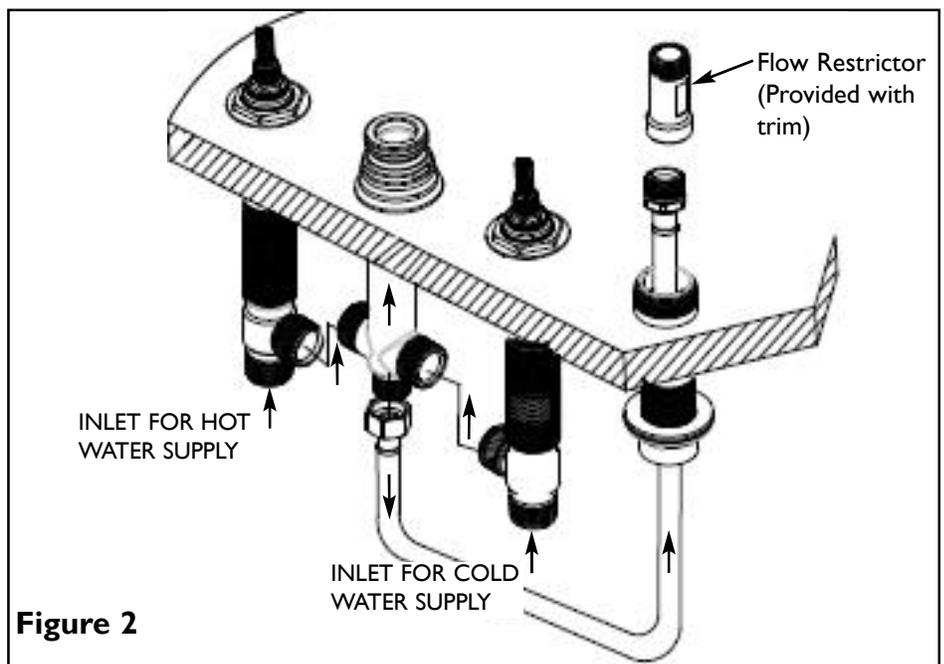

Figure 2
6. Feed Braided Hose through Hand Shower Deck Flange and attach one end of hose into the hand shower outlet of Diverter Valve. See **Figure 2**.
7. Attach hot/cold supply lines to appropriate Valve Body. See **Figure 2**.
3. Install Decorative Ring to Threaded Deck Flange. Attach Flow Restrictor to the Braided Hose. (**Fig 2**)